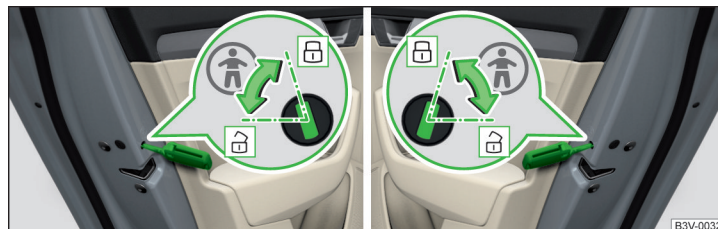

Fig. 55 Rear door: Child safety system switch on / off
- › To **switch on**, turn the parental control with the vehicle key in position  » Fig. 55.